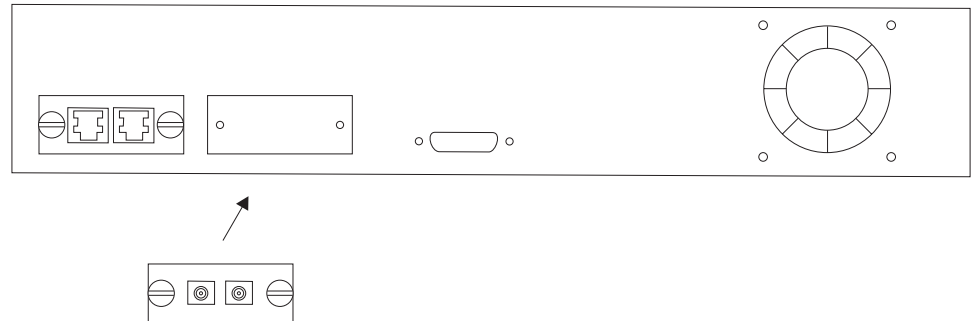

Figure 2-5. Installing an Expansion Module
- Step 3.** Insert the new expansion module (either type), ensuring that the edges slide through the guides as shown in Figure 2-5.